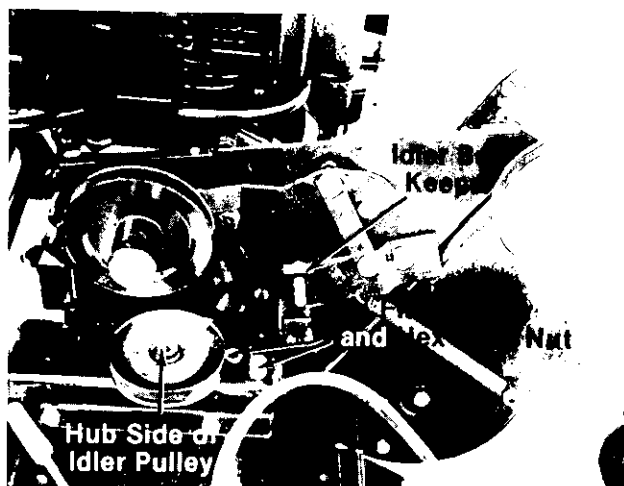

FIGURE 24.
5. Using two 9/16" wrenches, remove the hex lock nut holding the idler pulley and idler belt keeper. Slip off the belt. See figure 24.
6. Upon reassembly of new belt, the idler pulley must be installed with the hub side towards the chain case. See figure 24.